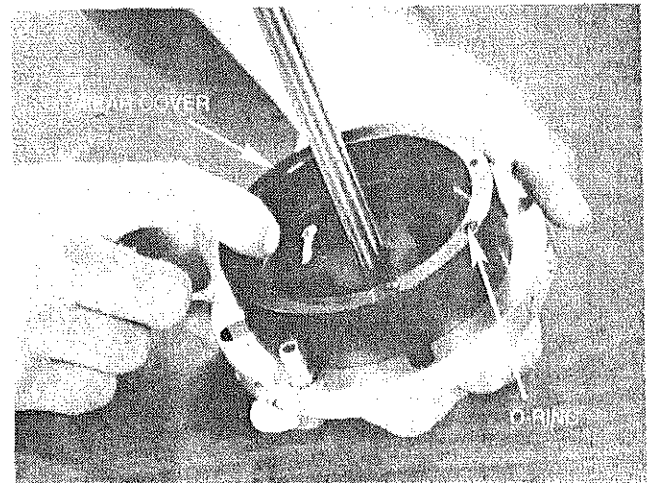

FIG. 34
18. Lightly lubricate inside surface of rear cover. Install lubricated O-ring into counterbore on edge of rear cover (Fig. 34).